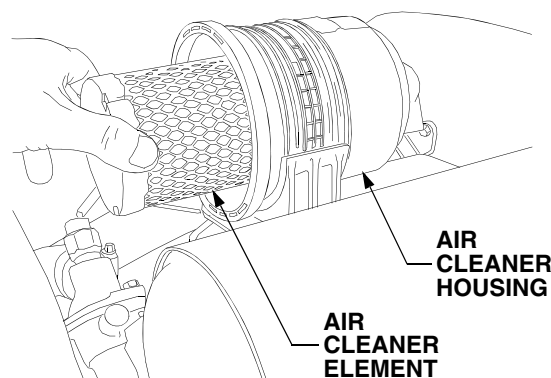

Figure 57
- Pull the air cleaner element from the housing. See Figure 57.